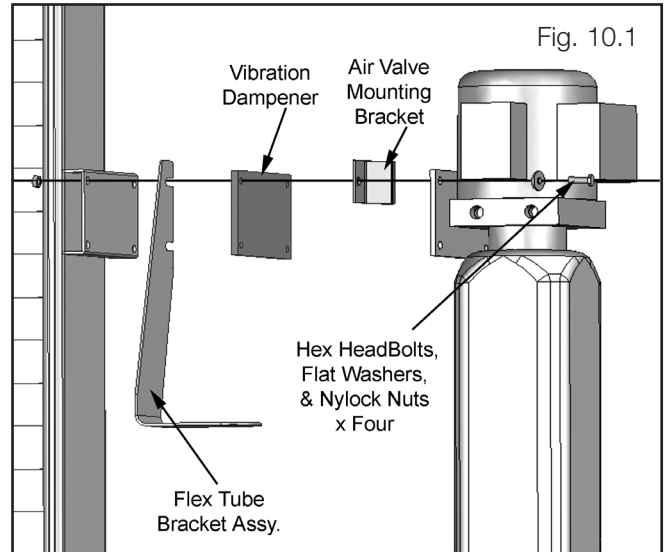

Fig. 10.1
1. Mount the Power Unit, Air Valve Mounting Bracket, Vibration Dampner, and Flex Tube Mounting Bracket to the Power Unit Mounting Bracket using the M8 hex bolts and Nylock Nuts. Fill the reservoir with 12 quarts of 10-WT hydraulic oil or Dexron automatic transmission fluid. (See Fig. 10.1)